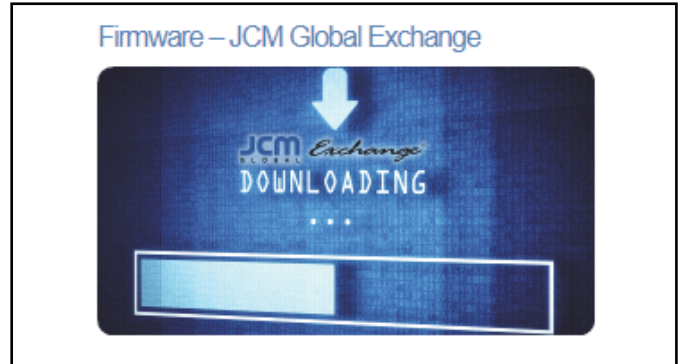

Fig 2: Click on the JCM Global Exchange Website Logo
**Answer:** The JCM Global Exchange website (**Figure 2**) at [exchange.jcmglobal.com](http://exchange.jcmglobal.com) provides JCM Customers with a secure digital download site for faster access to gaming regulator-approved Bill Validator and Printer Software certified for use in specific gaming jurisdictions.